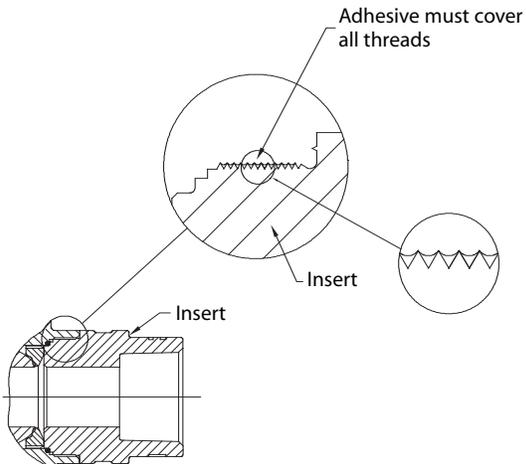
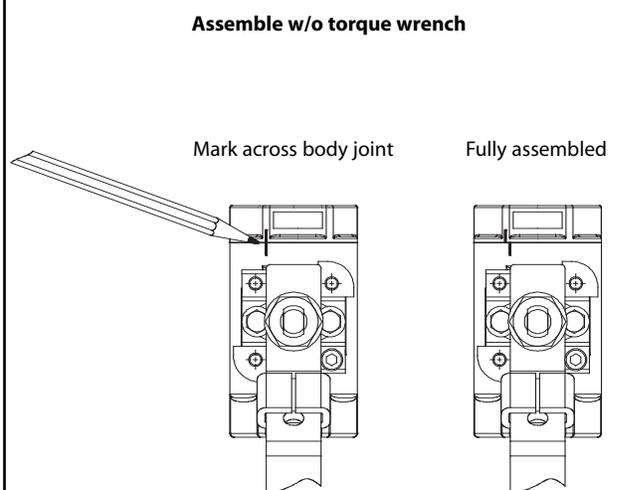

Figure 4
Figure 5
Draw a line across the body joint to identify the fully installed position (**See Figure 5**). The line should be clearly visible on both the body (1) and the body cap (2). Remove the body cap (2) and continue with the assembly.
11. Insert the second seat (5) with the flat facing up. Insert the body seal (6).
12. Apply Loctite™ 272 or equivalent thread locking compound to the threads in a single generous bead, 360 degrees around the body cap (2) threads. Spread the compound until threads are evenly coated. Ideally, thread roots will be filled with the compound with only the crests protruding (**See Figure 4**).
13. Install the body cap (2) hand tight. Wipe away excess Loctite.
14. With a torque wrench, tighten the body cap (2) to the torque listed in (**Table 2**). When assembling without a torque wrench, tighten the body cap (2) until fully installed and the lines made in step 10 show the body cap (2) has rotated past the fully aligned position (**Figure 5**). Wipe away excess Loctite.
15. Install handle (17), lockwasher (19) and handle nut (16) and tighten to torque listed in (**Table 3**).